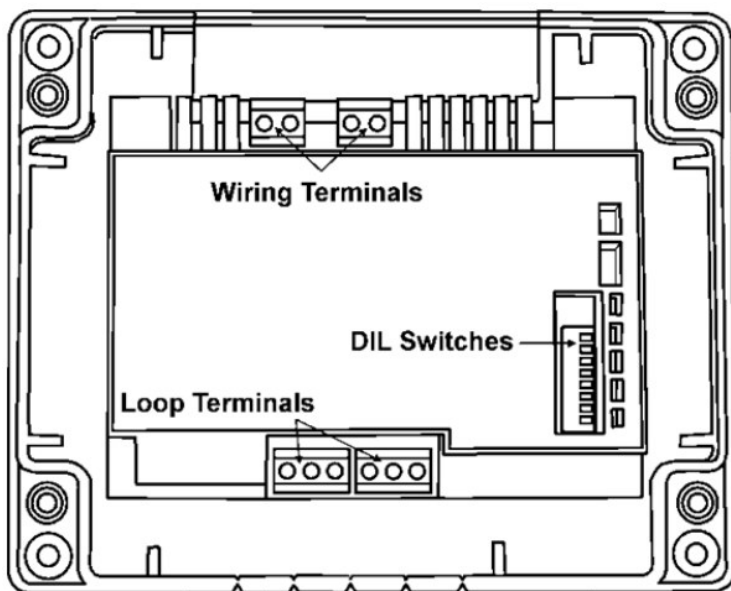
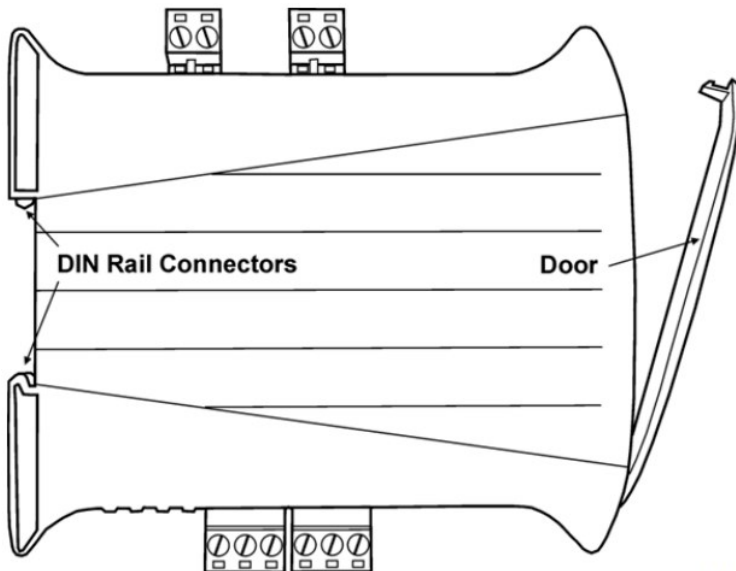

Fig 1
Fig 3
Standard “Smart-Fix” Modules are supplied as two individual components (see Fig 1 & 2). DIN versions are supplied as one unit (see Fig 3)
- The analogue address of the Module is set using the first 7 switches of the 8-bit DIL switch, which in the case of the Standard CHQ is located through the cut-out section on the top of the PCB cover. On the DIN version, this switch is located on the edge of the PCB behind the clear door (**see Fig 3**).